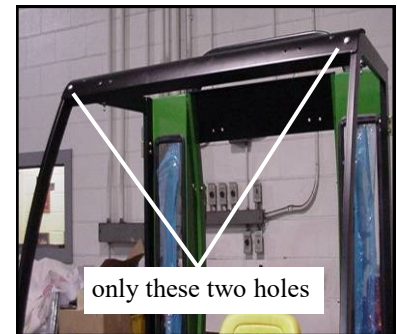

Fig. 5.1 Install Front Windshield Support
- 5.1 Install the front windshield support to the side frames with the bent flange down. Install only the bottom two 5/16 x 3/4" long button head screws, steel washers, nylon washers, and locknuts. (see fig. 5.1) (Note: the top holes will get fasteners once the roof is installed.)